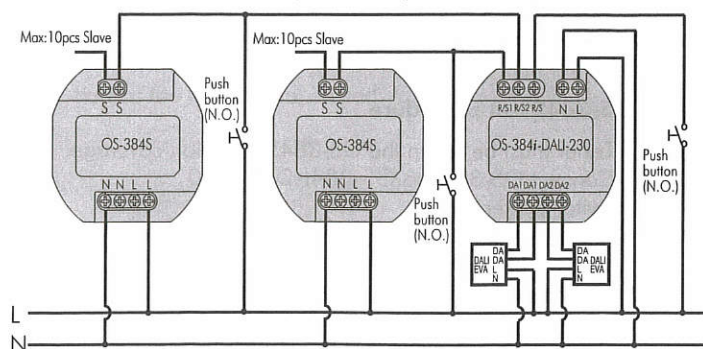
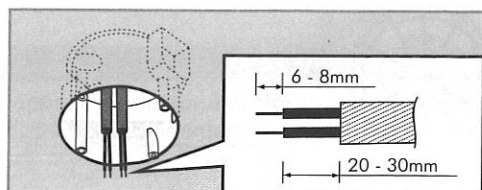
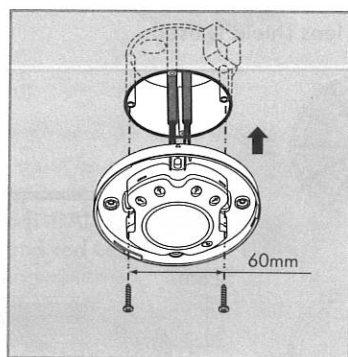
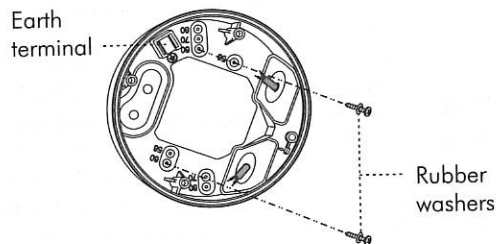

FIG.5
FIG.7
FIG.8
FIG.13
3.3.1.1 Normal operation (See FIG.5)
- 3.4.1.2 Pull out AC power cables from European standard junction box (See FIG.7), then strip off 6 - 8mm of cable sheathing for wiring (See FIG.5).
- 3.4.1.3 Please refer to illustration of FIG.8 for correct wiring and fix the power box into European standard junction box with 2pcs screws (See FIG.8).
- 3.4.2.3 Please refer to illustration of FIG.5 for correct wiring and then screw the SP-93 tightly.
- 3.4.3.3 Choose proper knockouts to fix the junction box JB-42 on the surface of ceiling board with 2pcs wood screws attached with rubber washers (See FIG.13).
- 3.4.3.4 Refer to wiring diagrams for correct wiring connection (See FIG.5). There is a square hole in the fixing plate, when you put the fixing plate into the junction box, please fit the fillister to the junction box's protrusion (See FIG.8), then fix the detector head on the power box following FIG.13 and assemble them with the attached 4pcs non-dropping screws.